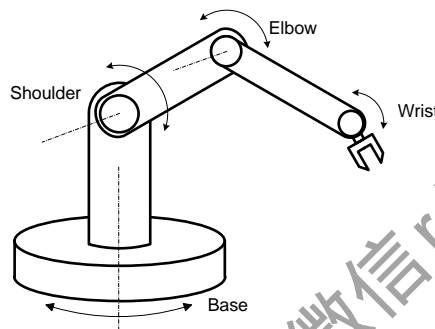
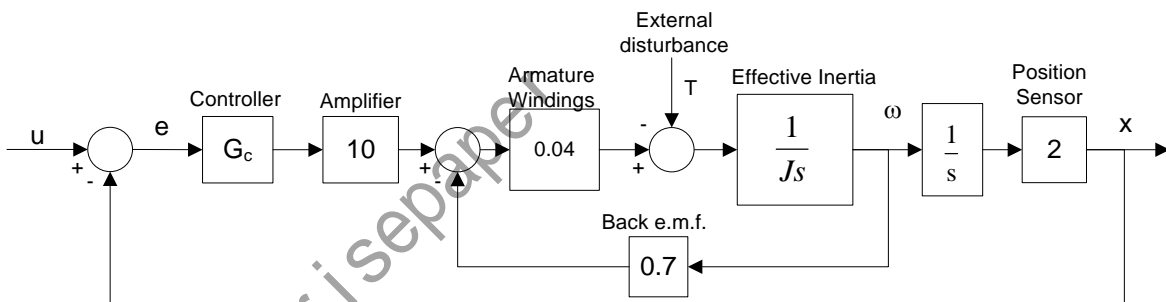

Figure Q5a
Figure Q5b
5. A robotic manipulator shown in Figure Q5a is powered by electric DC servomotors and Figure Q5b shows the control system for the shoulder joint. Forces due to gravity and dynamic coupling with other joints result in the external torque T experienced by the motor shaft. The total effective moment of inertia depends on the robot position within the working envelope in the range $0.002 \text{ kgm}^2 \leq J \leq 0.005 \text{ kgm}^2$. Initially G_c is set to be a proportional controller.